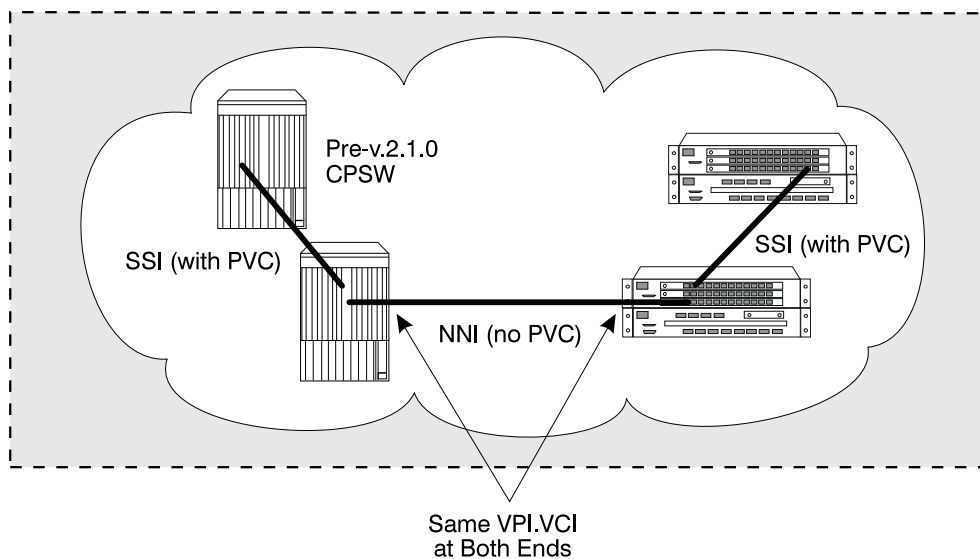

Figure 22. PVC Workaround for Early Hub Versions
- Join the two PVCs by fibre or cable, as shown in Figure 22